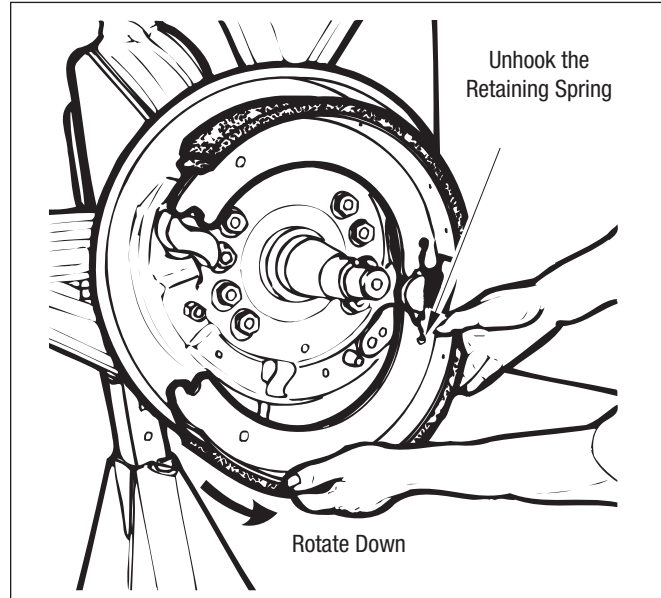

Figure 18 – Lower Shoe Removal
5. Stretch the shoe return spring and unhook it from the upper shoe web. *Refer to Figure 18.*